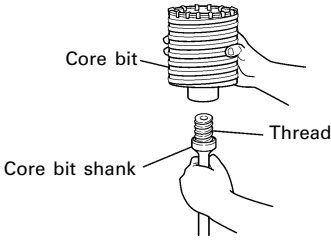

Fig. 17
- (1) Mount the core bit to the core bit shank. (Fig. 17).